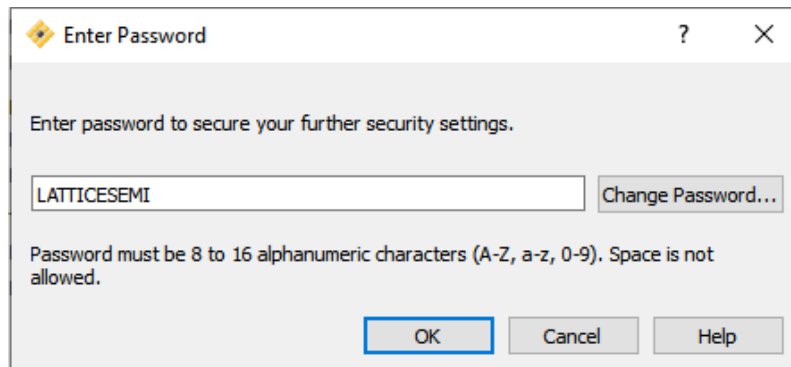

Figure 3.2. Enter the Password
- Enter the password as shown in Figure 3.2. The default password to get to the Security Setting menu is **LATTICESEMI**. You may change the password if you wish. This password controls access to the key generation area in the Lattice Diamond tool.